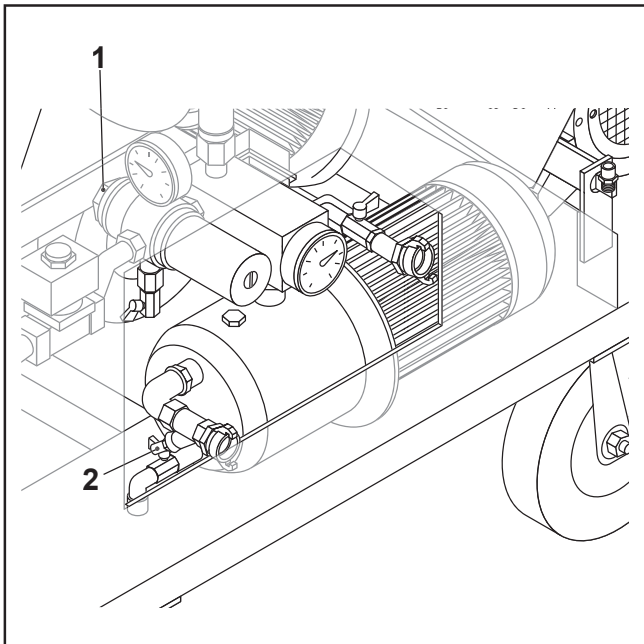

FIG.38
- Make sure the water filter (FIG.38-REF.2) is clean.